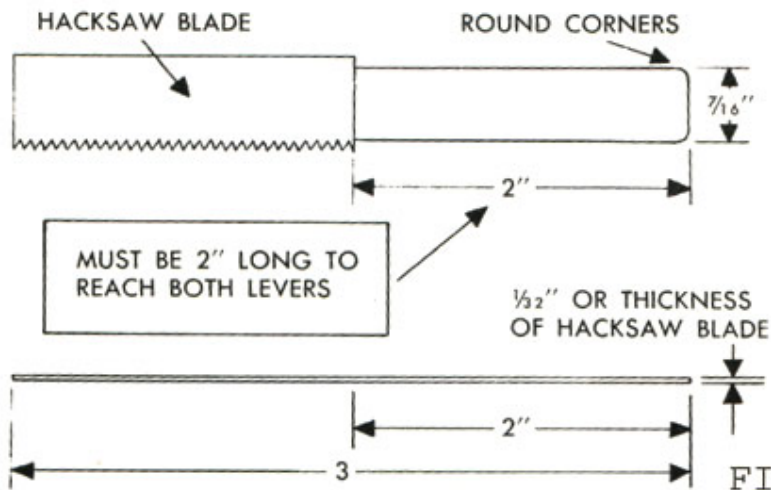

FIGURE 2
16. Make and insert special blade gauge, see figure 2, thru adjusting ring slot, lower levers and gate washer. Tighten swivels on gearshift rods while holding downward lightly on lower levers. Transmission must be in neutral detent at this time.